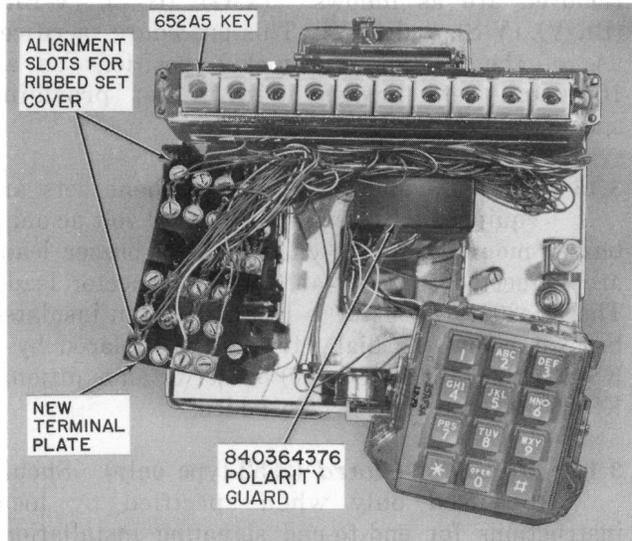

Fig. 5—Current 2852AM Telephone Set With Terminal Plate and Dial Moved Showing Location for New Polarity Guard
Note: Sets with the new terminal board have housing alignment slots (Fig. 5). Care should be taken to insure proper alignment of the ribbed set cover with the terminal board slots when replacing set housing.
3.16 Polarity Guard (2852-type only): Should be used only when specified by local instructions for end-to-end signaling installations where battery and ground reversals may be encountered. An 819041971 (P-90D197) (MD) or current 840364376 polarity guard (Fig. 5) may be installed. The current 840364376 polarity guard comes with an adhesive back. To install, remove the terminal board and dial as shown in Fig. 5. Remove the protective paper from the adhesive back and press guard firmly to chassis. Connect per Table D.
5.03 When dial replacement is necessary in the 852-type telephone set, use an 8RA dial for nonspeakerphone sets and an 8CA dial for sets with speakerphone. On sets equipped with new plastic terminal board loosen terminal board mounting screw located adjacent to terminal 3 (Fig. 5). Then swing terminal board away to allow access to dial mounting screws. (On older sets, insert screwdriver between terminal board and network.) Remove dial by loosening mounting screws and springing dial brackets sufficiently to release dial from locating